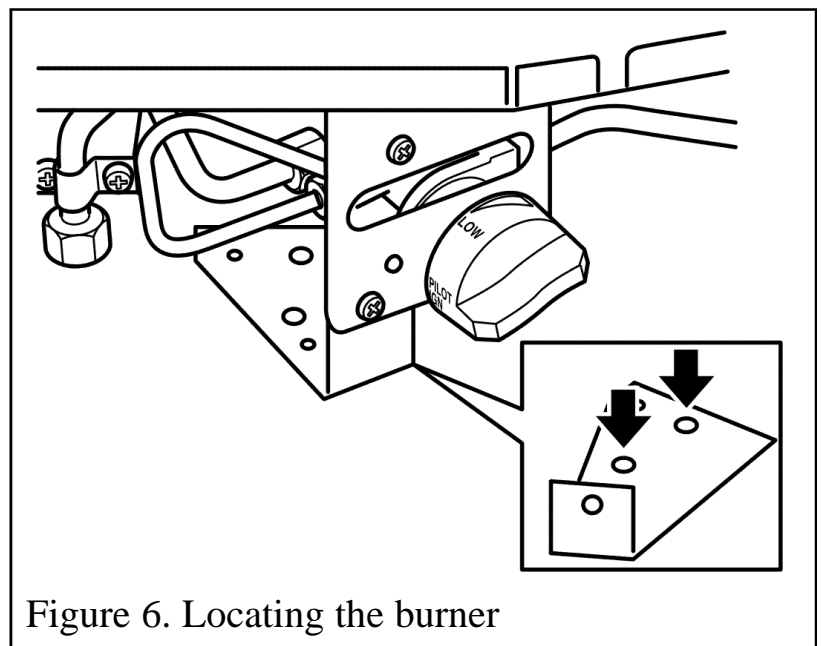

Figure 6. Locating the burner
- Mark on the fireplace floor the position of the fixing holes in the bracket that is attached to the rear of the front leg. There are two holes in this bracket to prevent burner movement in use (See figure 6).